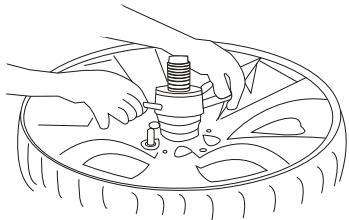

Fig 6
1. Take out the valve core to deflate the tyre. Roll the tyre onto the wheel lift 14. Depress the lift pedal 13 to raise the tire up to the full height by the wheel lift 14 until the lift cradle goes to 90 degrees, and then slip the tire over the turntable 8. Depress the lift pedal 13 to lower the wheel lift to the lowest position and align a lug hole on the rim with the alignment pin on the turntable so that the pin goes into the lug hole. Install the quick locking nut to the central post. Tighten it securely. (Fig 6)